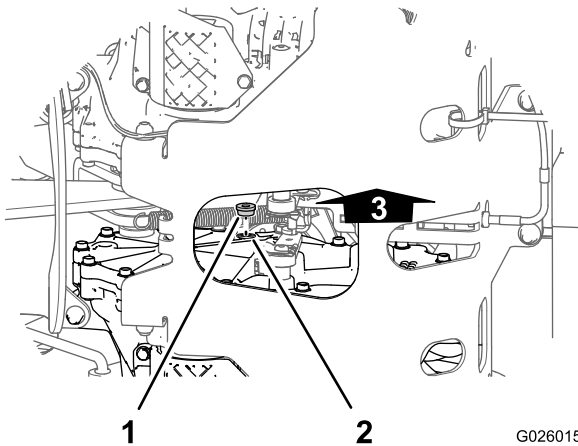
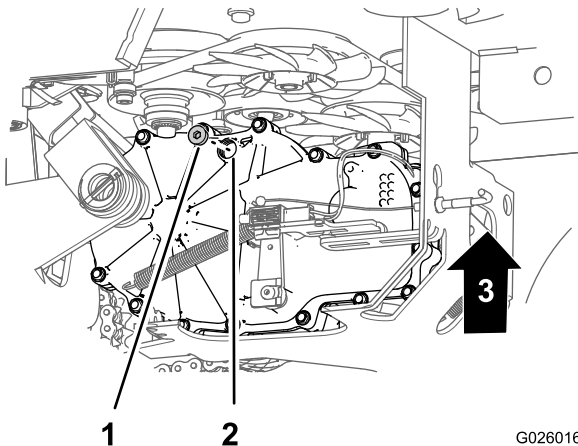

Figure 64
Figure 65
2. Align a drain pan under the sight plugs of the transmissions (Figure 64 and Figure 65).
3. At the inboard side of the transmission, near the top, remove the sight plug from 1 of the transmissions (Figure 64 and Figure 65).